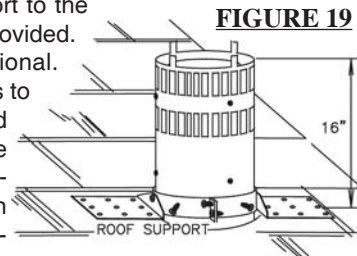

FIGURE 19
1. Cut or frame a hole in an exterior wall with a minimum round or square opening of 12¹/₂" W x 12¹/₂" H. Secure the firestop spacer over the opening to the interior wall. Secure the terminal to the terminal extension plate (see figure 19).